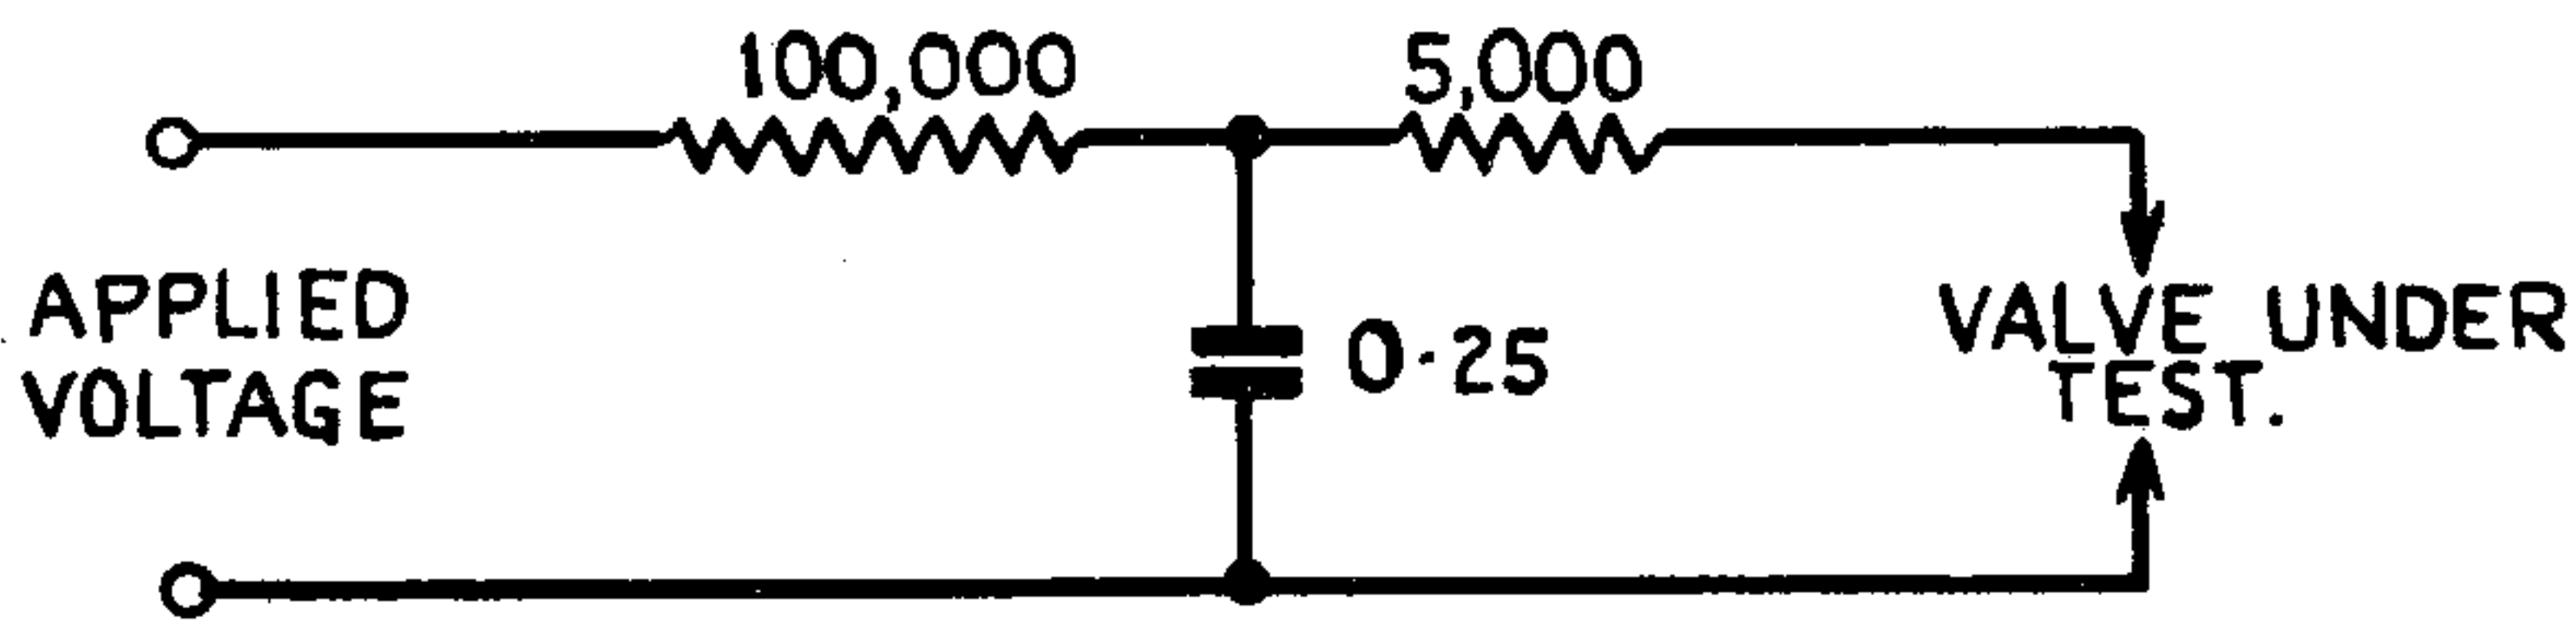

FIG. 1.
- 1:- Tests (a) and (b) form part of the processing of the valve, and having been met during manufacture they shall not be repeated for acceptance testing. For these hot flash tests, the applied voltage shall be supplied through a circuit as in Fig.1, page 3.